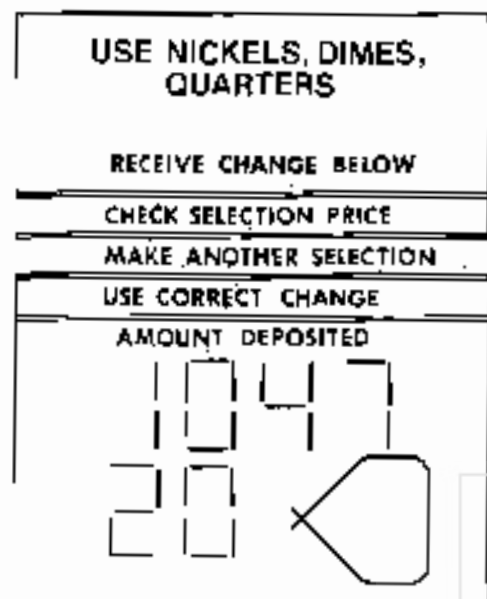

Figure 19. SHOWING A SERIAL NUMBER OF 104720
- C. Enter the new number by pressing the panel number buttons; Button #10 equals 0 (Figure 19).